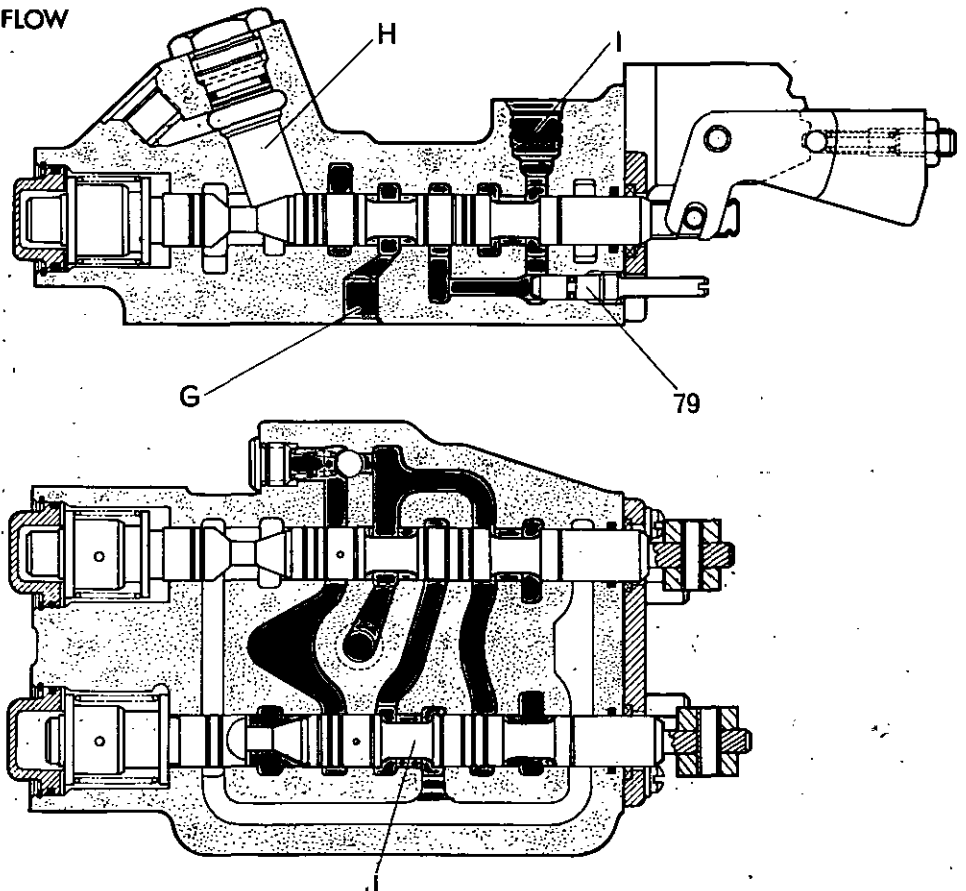

FIG. 14
**Single-Acting Lowering (Lever Forward) (Fig. 14)**